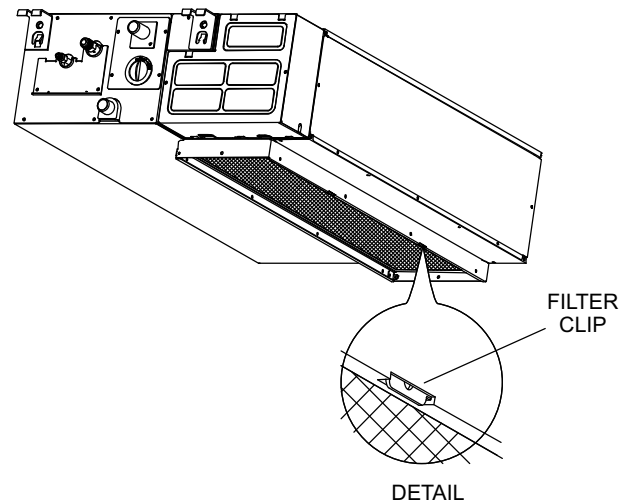

Figure 5. Field-Relocation of Return Air Filter (Typical)
- 7 - The unit is factory-configured for the supply air to be delivered from the front and the return air filter at the rear of the unit. The return air filter location can be relocated in the field for bottom return air filter access, if more convenient. See figure 5.